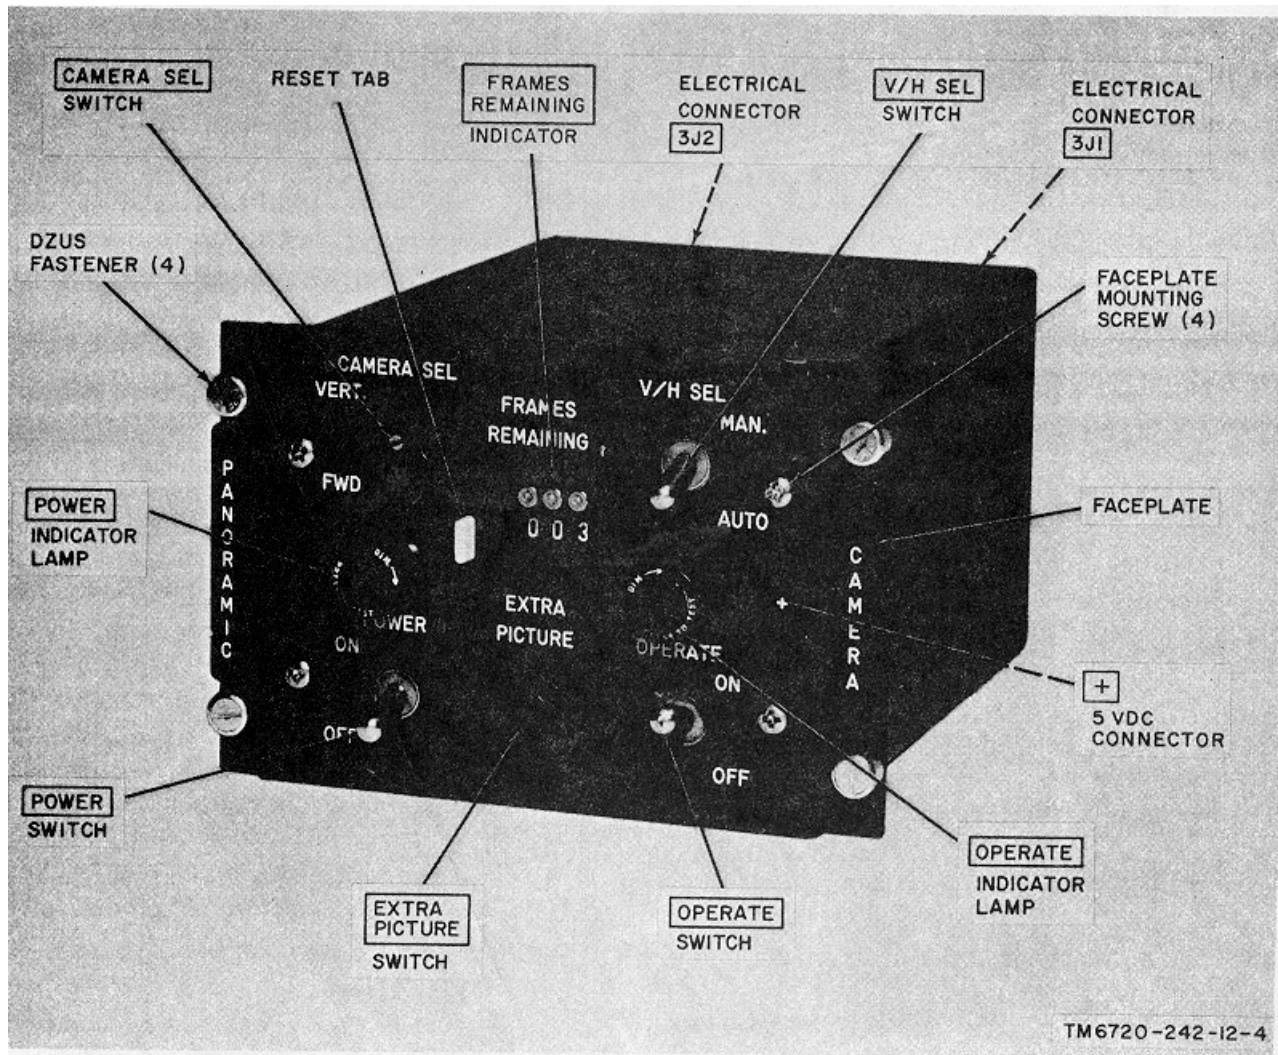

Figure 1-4. Control panel, front view.
c. *Control Panel* (fig. 1-4). The control panel contains all the controls and indicators of the camera. Electrical connections to the control panel are made through electrical connector 352 while E V/H (ratio of ground speed (V) and altitude (H) to voltage (E)) signal inputs are applied through electrical connector 3J1. Four Dzus fasteners facilitate mounting the control panel to the aircraft console.
a. *Control Panel* (fig. 1-4).